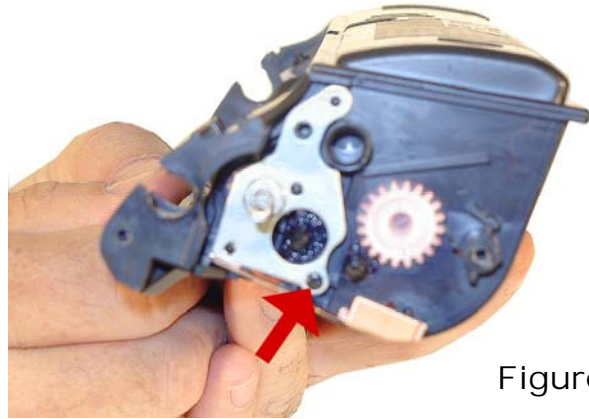

Figure 23
17) Remove the small screw from the feed roller contact plate, remove the plate. See **Figure 23**